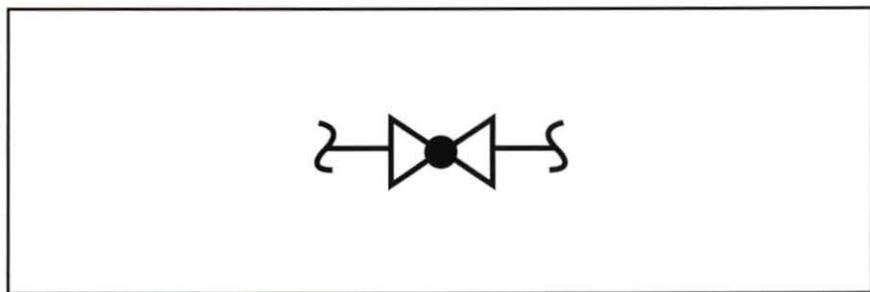

Figure 32. Valve Symbol
- 10. Determine the type of valve or actuator symbol depicted in figure 32.